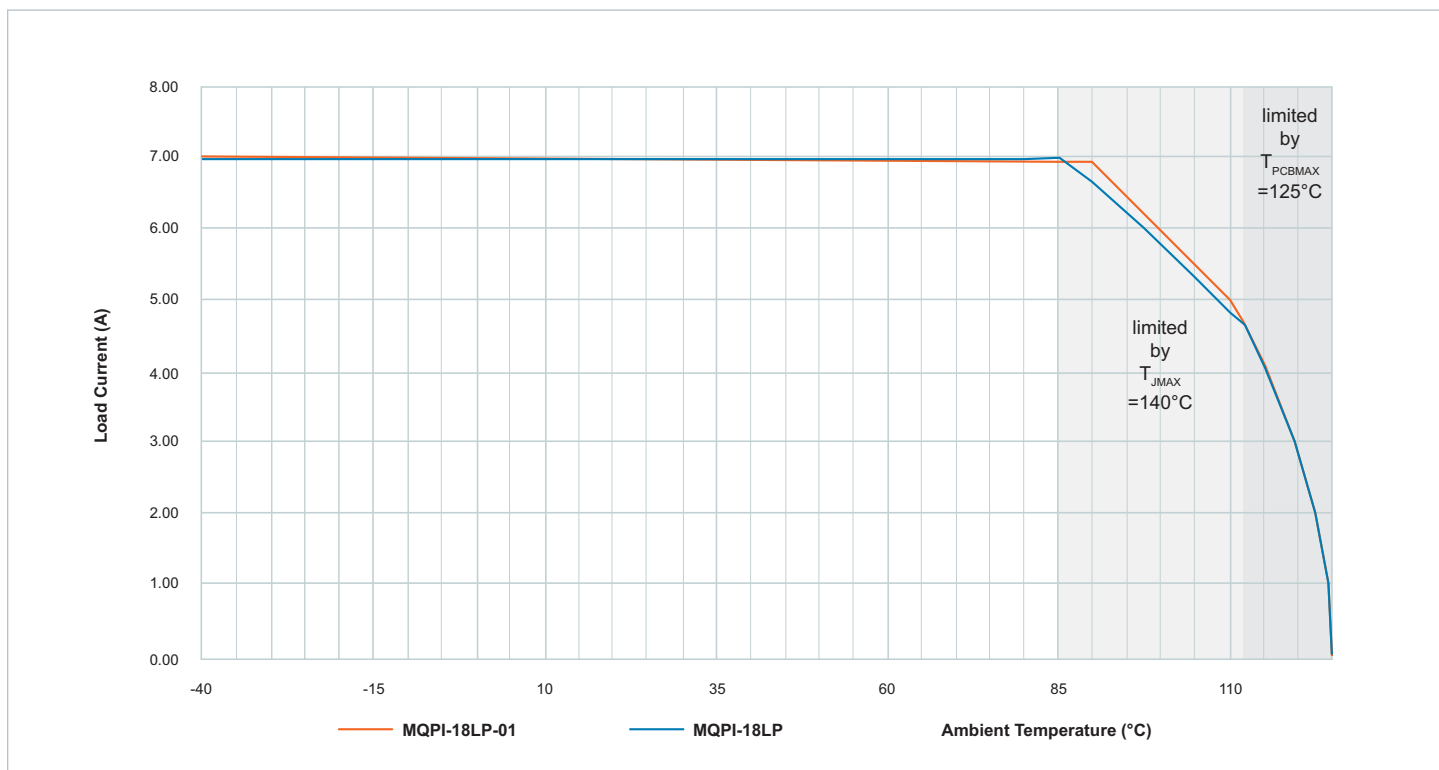

Figure 4 — Current de-rating over ambient temperature range
- -55° to +125°C PCB temperature (see Figure 4)
[c] See Figure 4 for the current de-rating curve.